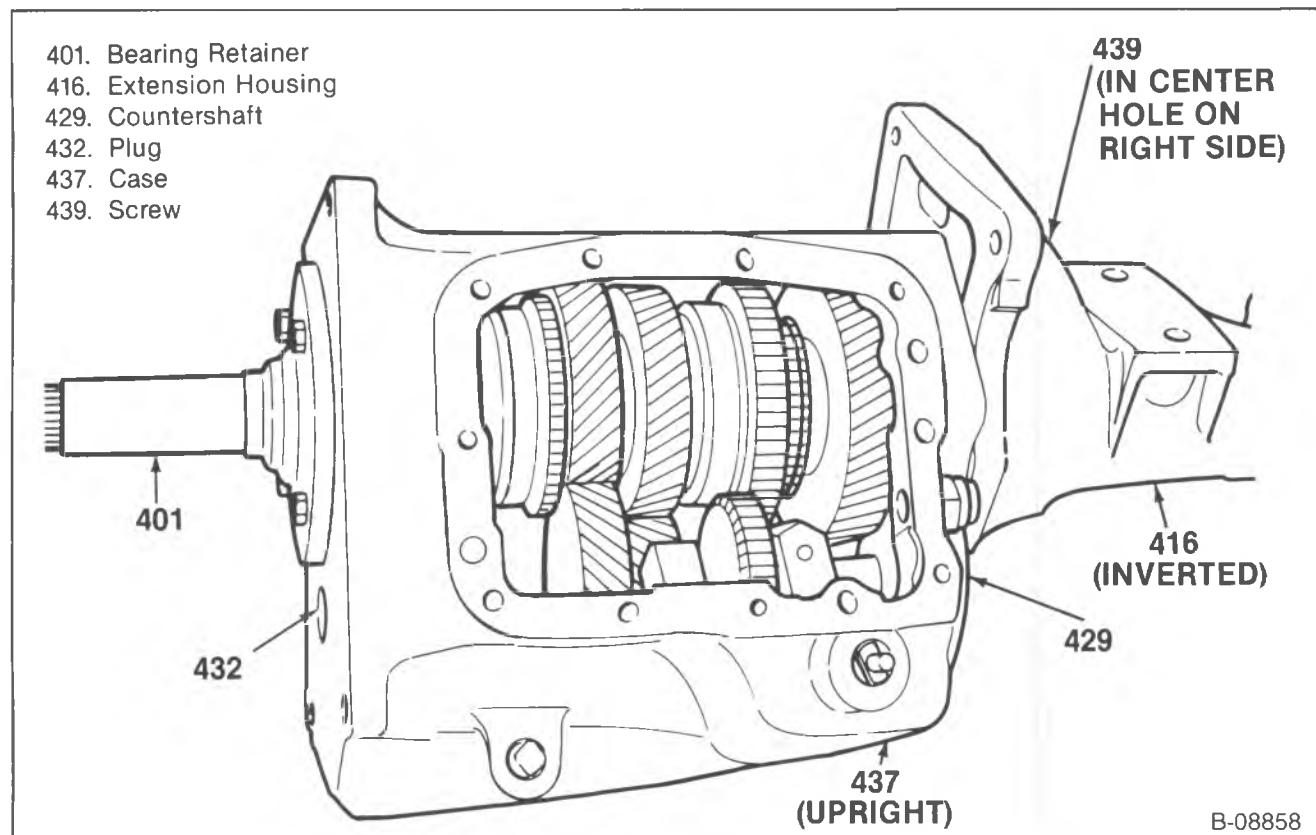

Figure 3—Turning the Extension Housing
- 1. Reverse shift lever (445).
- 2. Side cover (450) and the gasket.
- 3. Extension housing screws (439), (figure 3).